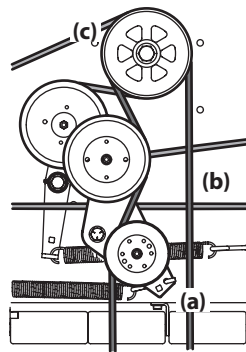

Figure 51
- Using a 1/2" drive in the idler pulley bracket (a), turn the wrench towards the right of the mower and slide the PTO belt (b) off the PTO pulley (c). See Figure 51.